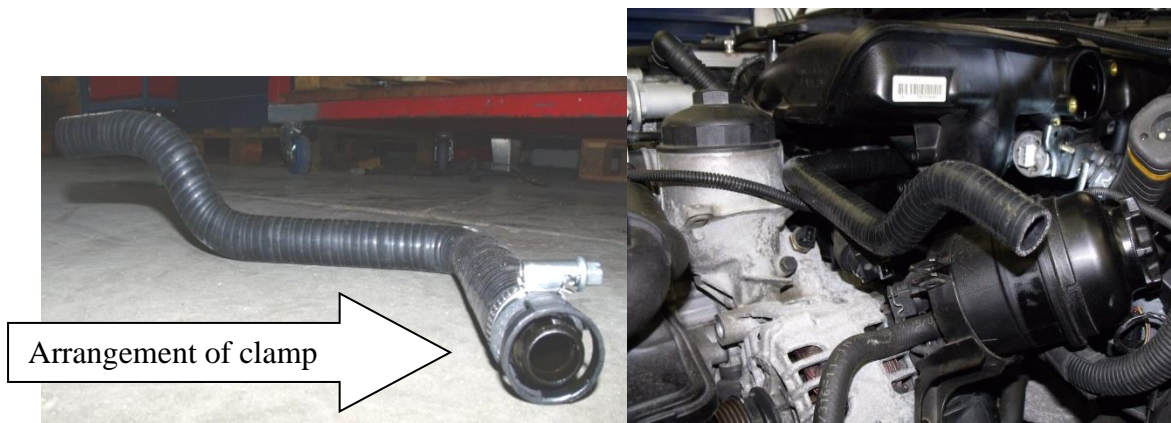

Figure 11
22. Mount the crankcase ventilation hose P341-53-20 on the pipe from step 21 and fix it with one hose clamp. To simplify the assembly align the parts as shown in Figure 11.